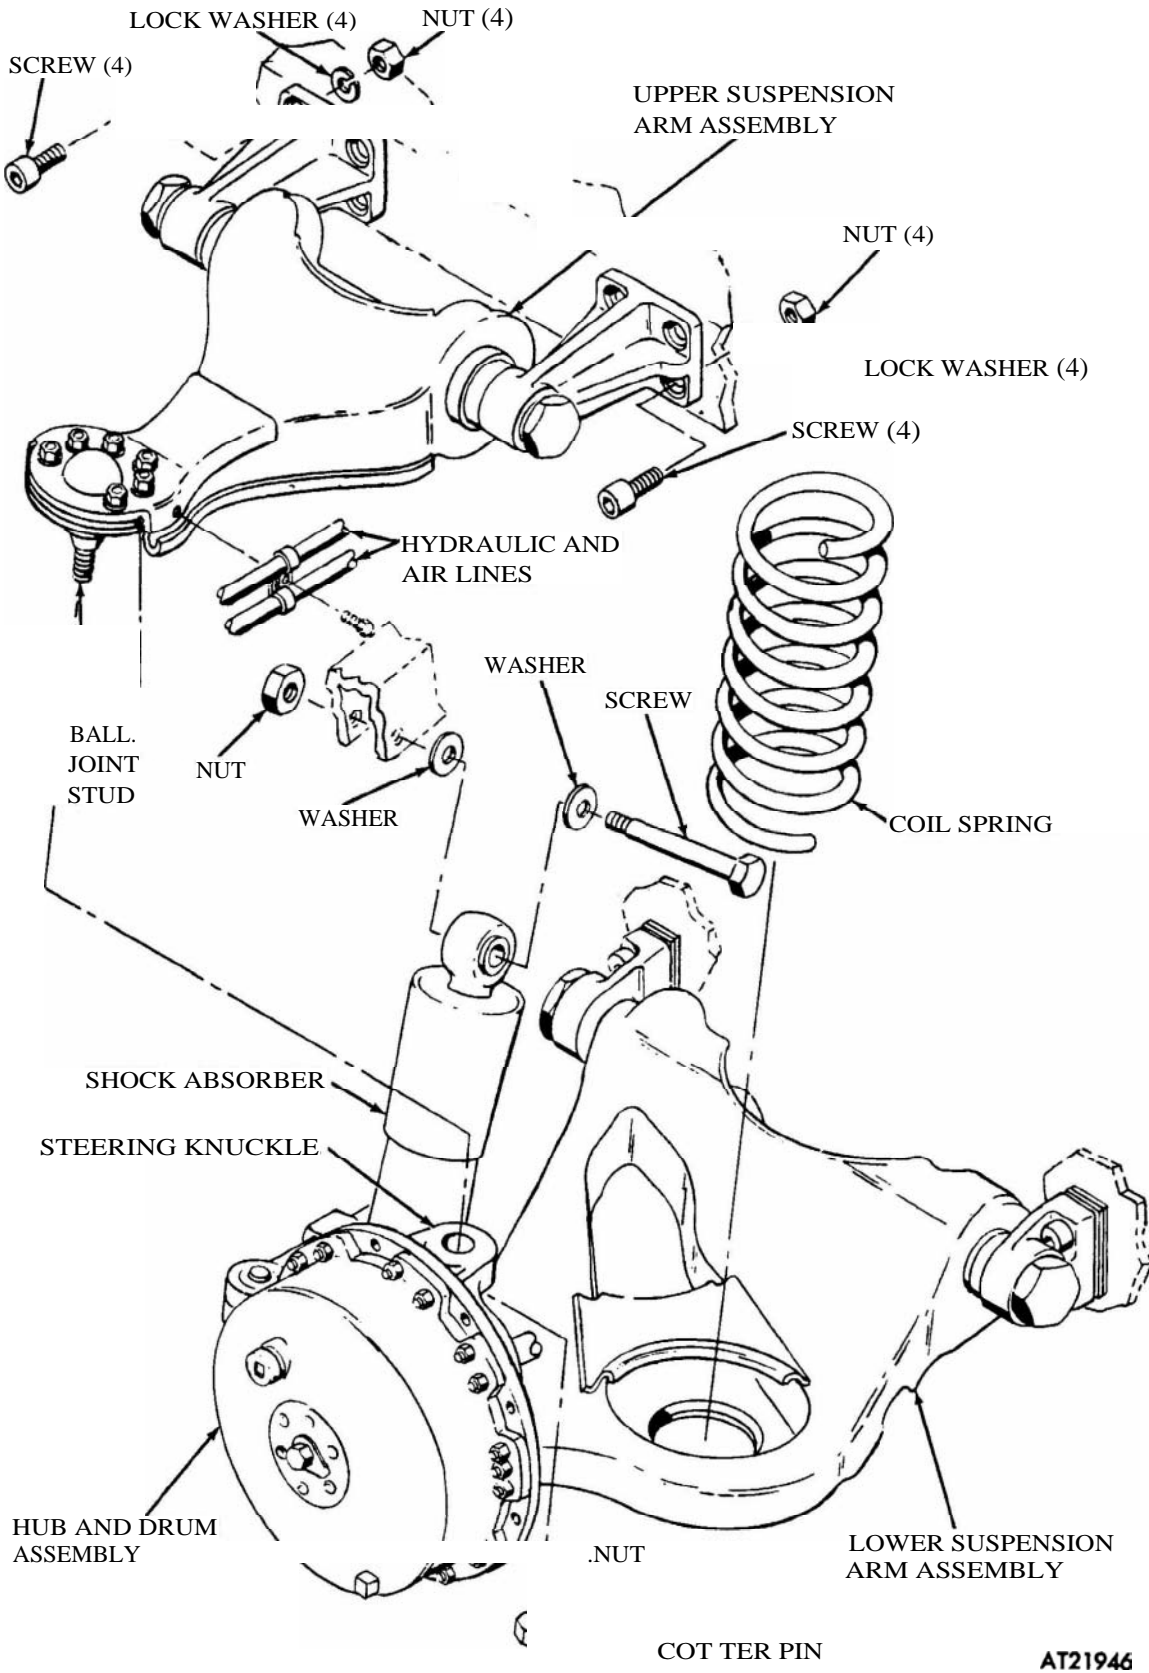

Figure 2-293. Front and rear upper suspension arm, removal and installation.
shock absorber to body and position shock aside (fig 2-293).
- (2) Install coil spring by inserting it into upper arm spring seat and prying it into position on lower arm assembly (fig 2-293).
(3) Place a jack under lower arm assembly and raise assembly sufficiently to permit installation of upper arm ball joint stud in steering knuckle.
(4) Install nut and cotter pin securing upper arm ball joint to steering knuckle.
(5) Position upper end of shock absorber against body and secure with bolt, washers, and nuts. Torque nut to **105-145 lbs-ft.**
(6) Position hydraulic and air hoses to upper arm assembly and secure with clamps and screws.
(7) Install wheel and tire assembly (refer to para 2-156).
(8) Remove blocks and lower vehicle to **ground.**